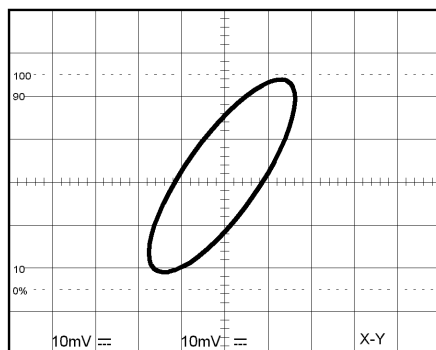

Figure 5-7 Typical single X-Y display.
Comparison of the frequency and phase of two signals can be made by using the X-Y mode. The X-Y waveform displays different amplitude, frequency, and phase. The figure 5-7 shows a typical waveform made up of two signals that are of the same frequency and amplitude, but approximately 45° out of phase.
- 3) Set the X-Y button to X-Y operation (shown as Fig. 5-7 below).